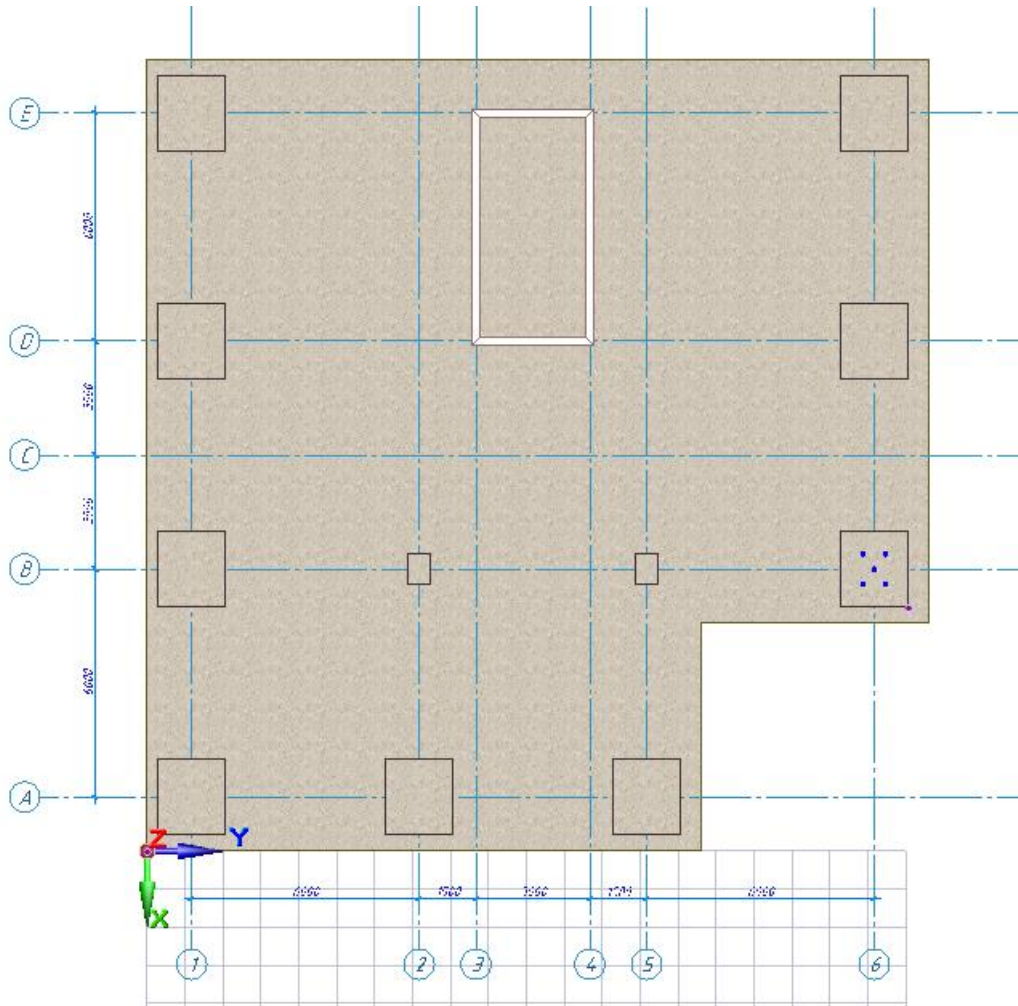

Figure 23.16. Location of the UCS reference mark
- ⇒ To move the UCS to the left bottom corner of the slab on the top view (see Fig. 23.16), place the locator over this point, right-click this point and on the shortcut menu, click the **To Point** command (**Ctrl+period** (.) on the numeric keypad).